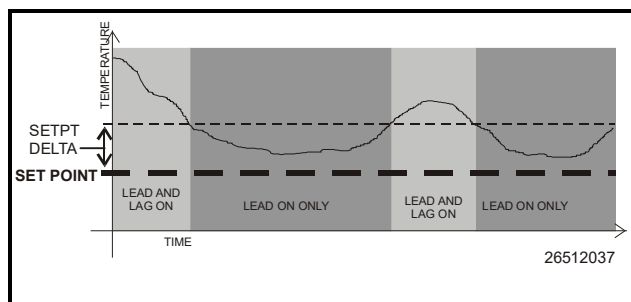

Figure 11-29 - Lead/Lag Arrangement
*Figure 11-29* shows how a pair of Heat/Cool applications using a Lead/Lag arrangement would operate in Cooling mode. When the temperature is in between the setpoint and the setpoint delta, the Lead loop alone will control cooling. However, when the temperature is above the setpoint delta, the Lag loop will come on-line, and both Lead and Lag loops will work to bring the temperature down.